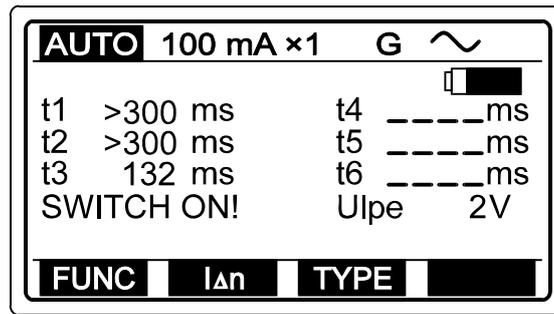

Fig. 54. Example of the third partial result
- ◆ Set function switch to **ZLOOP** position, the menu according to the figure 54. will be displayed.